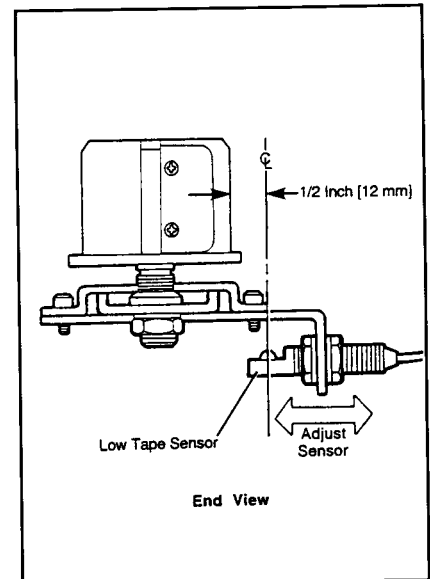

Figure 20
- Install sensor (see Figure 20) into hole in mounting bracket with wave washers and nuts provided. Adjust so sensor is approximately 1/2 inch [12 mm] from core of tape when tape roll is installed. **Tighten nuts snugly but DO NOT overtighten.**